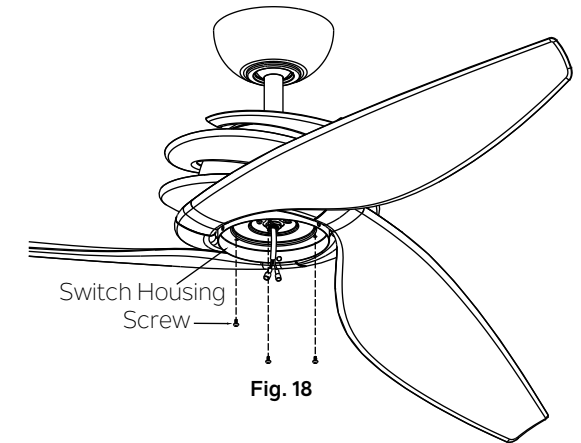

Fig. 18
Step 1. Remove the three screws in the switch housing. (Fig. 18)